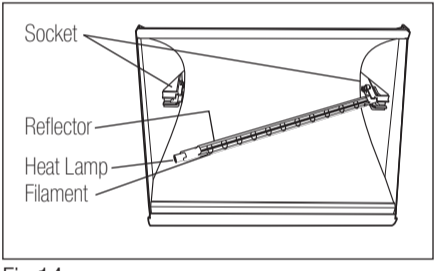

Fig. 14
- The heat lamp is half coated with a white reflector. When you grasp the heat lamp, face the back of the reflector to the ceiling (so you can see the heat lamp's filament). Not doing this will reduce performance. (Fig 14)
6. Fit one end of the heat lamp into a socket and gently push it away from the other socket. (Fig 14)